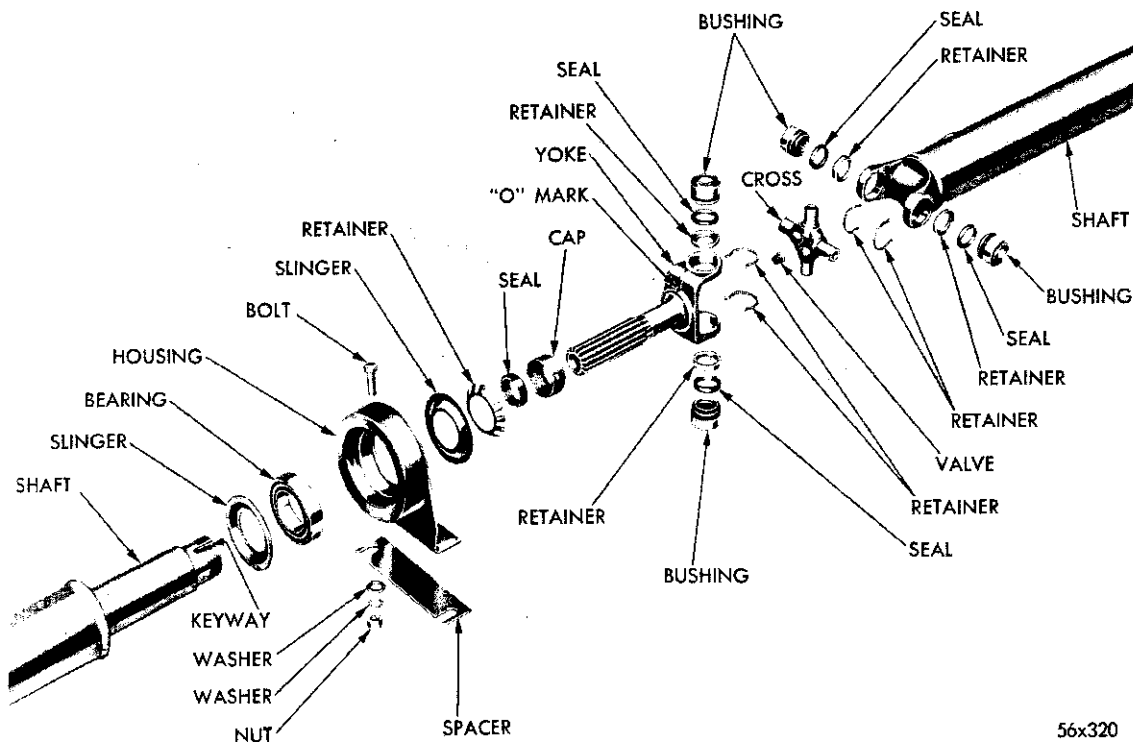

Fig. 7—Propeller Shaft and Center Bearing Assembly (Disassembled View)
the center universal joint (Fig. 7).
Before measuring the propeller shaft angularity, the vehicle should have the weight of a full tank of fuel. Measure the shaft indexing (Fig. 7) by prying the tank of the retainer out of the seal cap and unscrewing the cap. The "O" mark on the splined yoke should be lined up with the keyway in the shaft.
(1) Thoroughly clean the center bearing housing, (Note the index marks on the rear of the front shaft and matching mark on the shoulder of the universal yoke.) (Fig. 7).
(2) Straighten the tab of the star washer and unscrew the cap or the seal retainer.
(3) Remove the star washer and slinger.
(4) Pull the yoke, seal retainer and seal from the front shaft.
(5) Remove the bearing and housing from the front shaft (front slinger may be left on shaft).
(6) Press the bearing from the housing.
(7) Remove the seal and retaining cap from the yoke.
Assembly (Fig. 7)